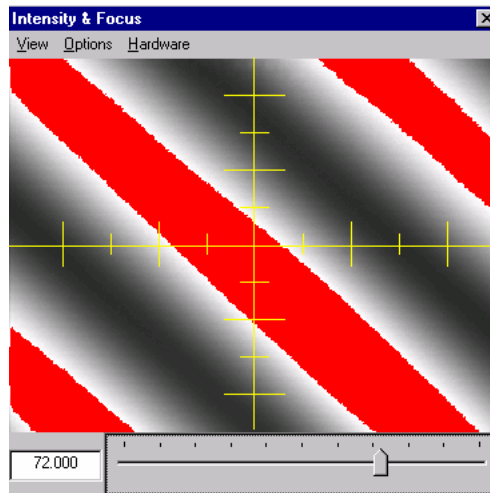

Figure 6. Fringe Pattern for PSI
3. Select **INTENSITY** → set the intensity and find the best focus at the surface. (Fig. 6) HINT: 2-4 fringes should be oriented at a 45° angle with respect to the X-Y coordinates in the intensity box. Begin initial focusing by going under **HARDWARE** → **FILTER** → **PSI LOW MAG** and **HARDWARE** → **FOV** → **1x**, this is the **COARSE** focus (larger range of focus). Once you have the surface in focus, you should use the **COARSE** “Tilt and Tip” knobs to orient the fringes as described above, then change the filter for a final focus (**HARDWARE** → **FILTER** → **PSI HIGH MAG**)
and double-check your focus and intensity. (See Fig. 6) (Double check that the FOV is still 1x).